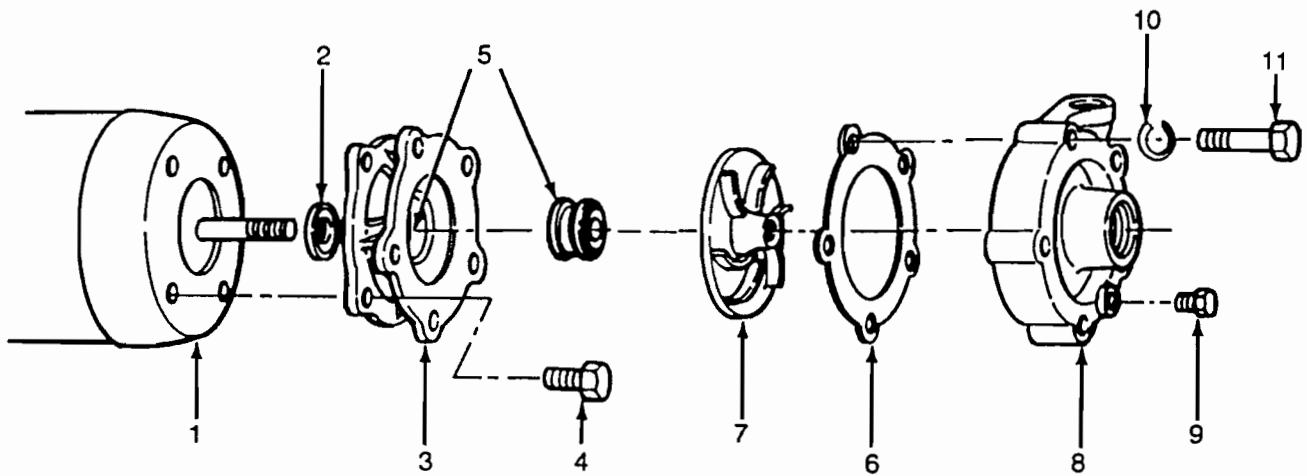

Figure 5 — Replacement Parts Illustration
1. Disassemble the centrifugal housing from the pump by removing the five hex head capscrews. (Refer to Figure 5.)